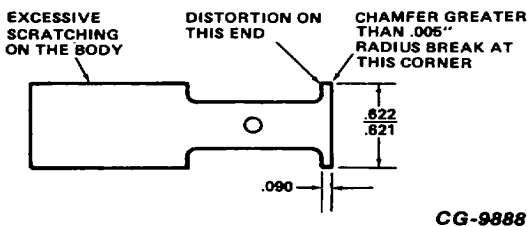

Figure 13a. - Lube Oil Pressure Regulating Valve Check Points
4. Inspect per Figures 13a and 13b.
NOTE: If conditions exist as shown in Figures 13a and 13b and dimensions are not as specified replace complete valve assembly.